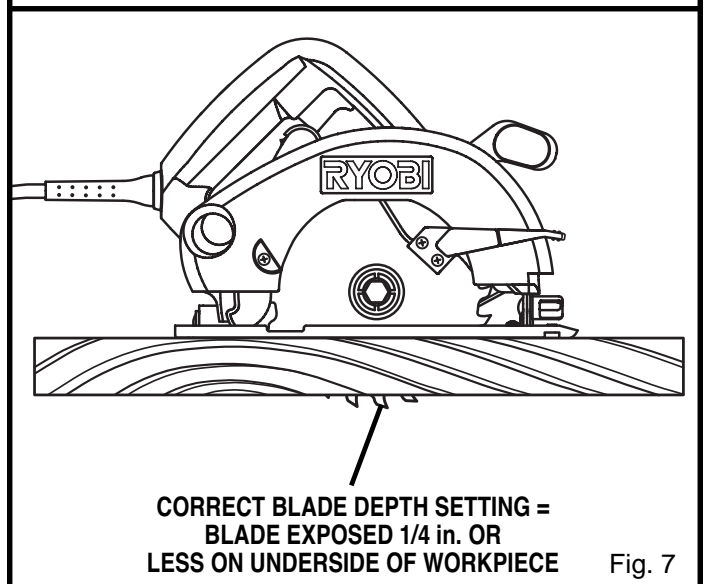

Fig. 7
- Always keep the correct blade depth setting—the correct blade depth setting for all cuts should not exceed 1/4 in. below the material to be cut. See Figure 7.